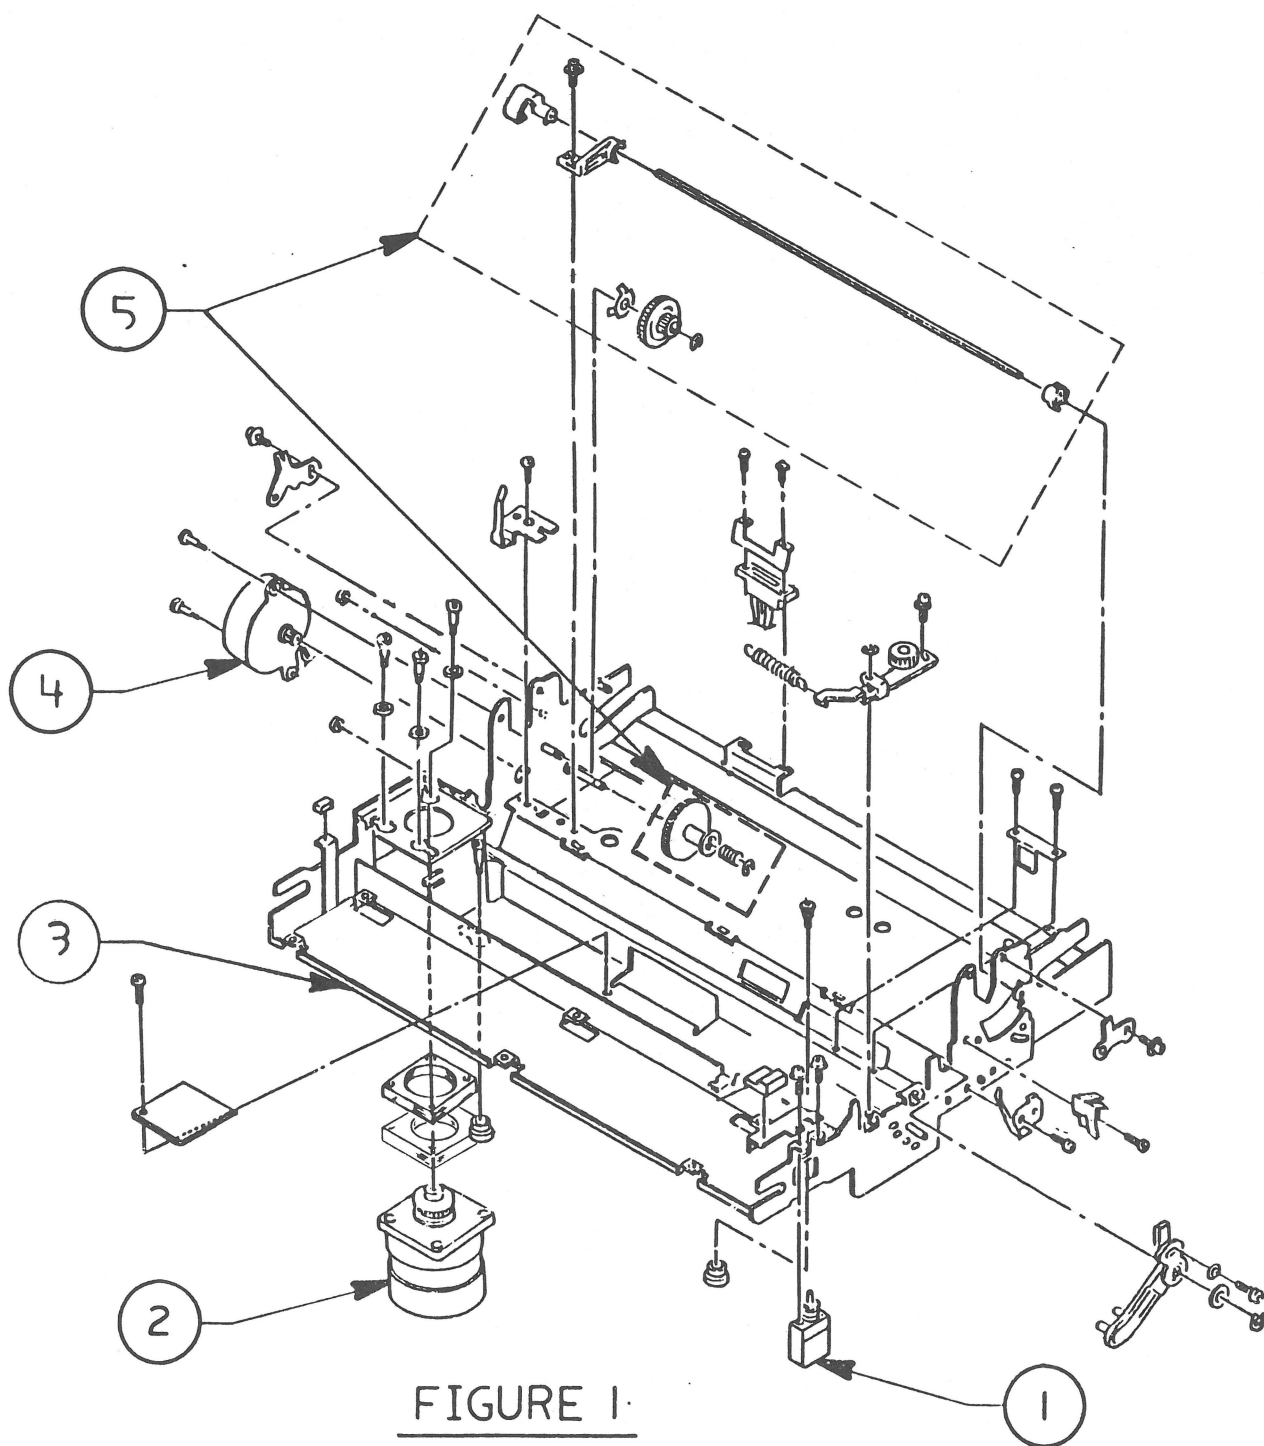

FIGURE 1.
□ FRAME (Figure 1)
The following screws, e-clips, etc., are used in the parts shown in Figure 1: